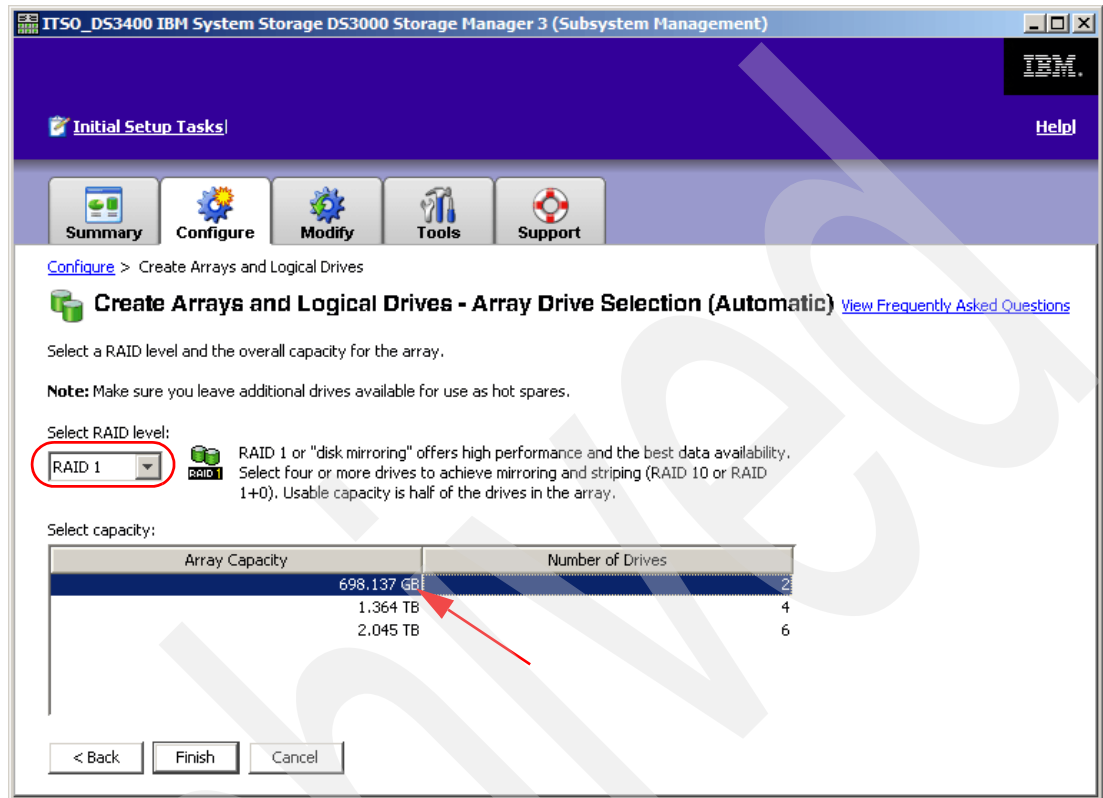

Figure 27-20 Array Drive Selection (Automatic)
5. In the Array Drive Selection window, we specify the RAID level and then select one of the presented capacity options. We need to select RAID level 1; at this point, the window displays three entries, as shown in Figure 27-20. We select the first entry with two drives. Highlight this line and click **Finish**.